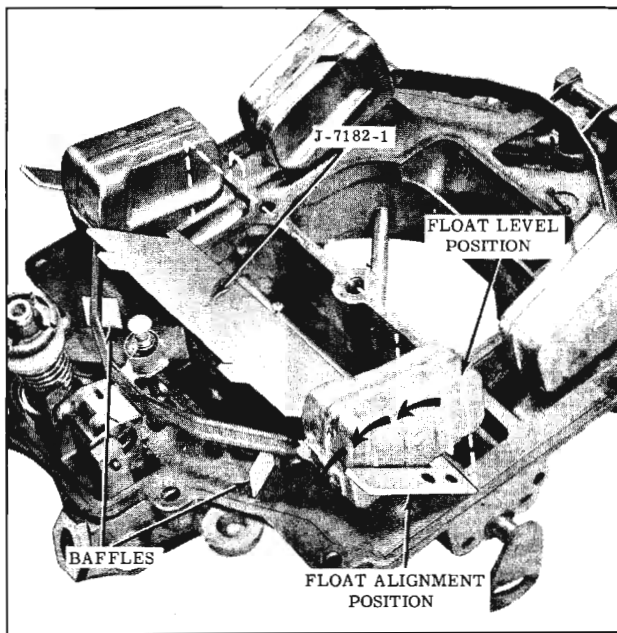

Fig. 9-17 Checking Primary Float Level and Alignment
1. With gasket in place and the air horn inverted, position gauge J-7182-1 under the primary float as shown in Fig. 9-17.
4. To check float alignment, rotate gauge as indicated in Fig. 9-17. Float pontoon should be centered in the gauge cut-out.